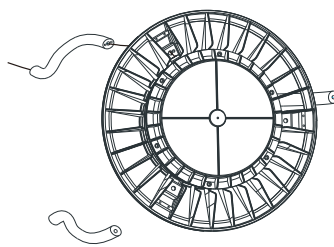

Figure2
2. The threading rod corresponds to the hole to thread the power cord (Figure 2)